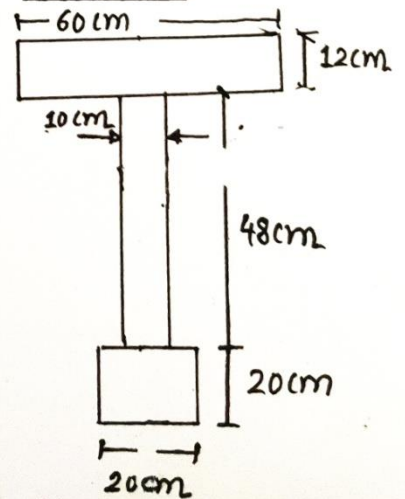

Fig. 06
- (c) Determine moments of inertia of a section shown in fig. 06 about horizontal centroidal axis. **07**
- Q.5** (a) Define: (1) Shear Force (2) Bending Moment (3) Points of contraflexure **03**
- (b) Derive the relation between : (1) Young's Modulus (2) Modulus of Rigidity (3) Possion's Ratio **04**
- Q.5** (a) Draw shear stress distribution diagram for : (1) I section (2) Circular section (3) Triangular section **03**